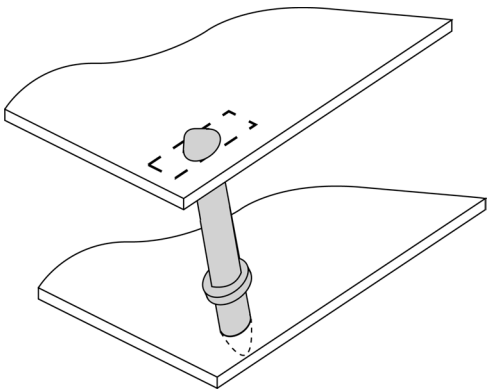

Figure 2: Stand-off Installation
Perform the following steps to install an SB-293 Satellite board on a PXL-250 controller (see Figure 2).
3. Line up the stand-offs in the top two corners of the Satellite PCB with corresponding mounting holes in the controller PCB (see Figure 2).